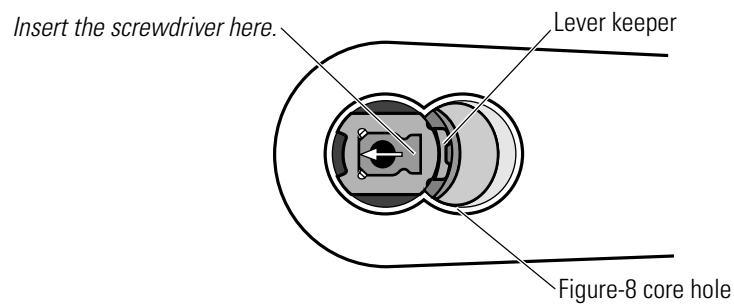

Figure 3.2 Removing the keyed lever
4. Press the screwdriver blade in the direction of the arrow in Figure 3.2.